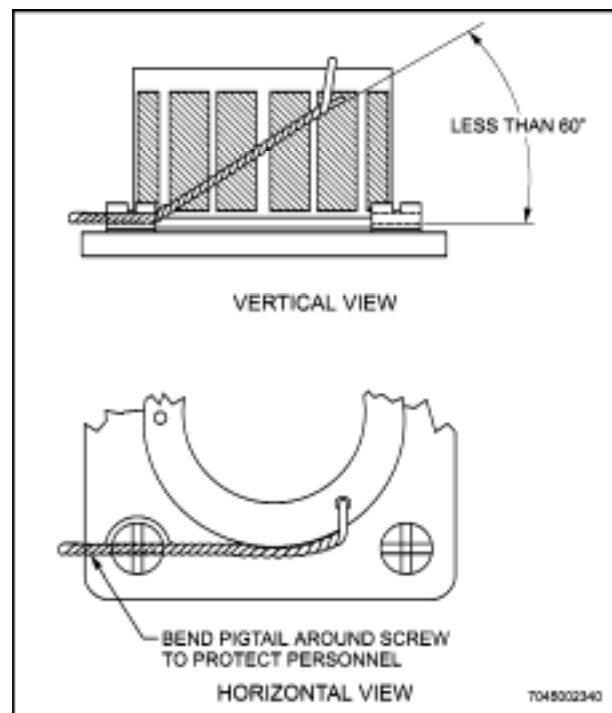

Figure 9-1 Double Twist Lock Wiring
9. Use the double twist method of lock wiring as illustrated in Figure 9-1 for all equipment in areas of high vibration and for electrical connectors in areas which are inaccessible.
- c. Pull one end of twisted wire through hole in drilled fillister head screw on mounting flange of connector. Use a fillister head screw so located as to allow a 60° or smaller angle of the wire, as shown in Figure 9-1.